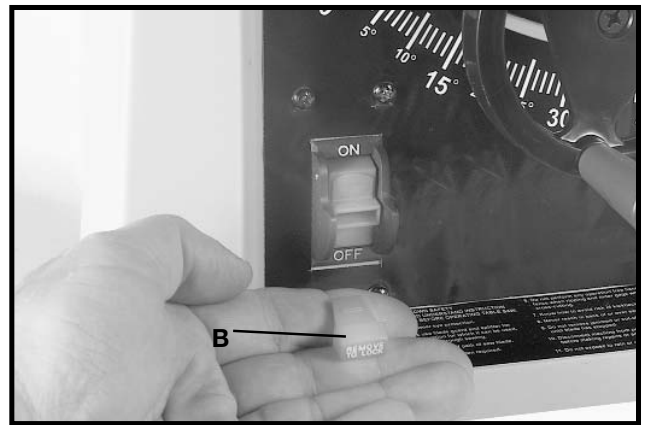

Fig. 28
**IMPORTANT:** When the tool is not in use, the switch should be locked in the “OFF” position to prevent unauthorized use. To lock the tool, grasp the switch toggle (B) and pull it out of the switch (Fig. 28). With the switch toggle (B) removed, the switch will not operate. However, should the switch toggle be removed while the saw is running, the machine can be turned “OFF,” but cannot be restarted without re-inserting the switch toggle (B).